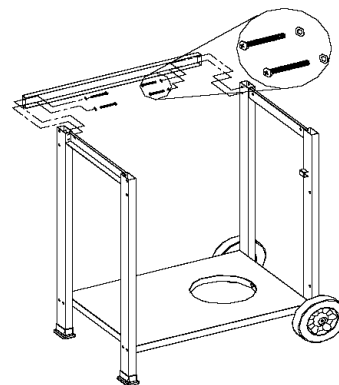

Figure 4
4. Assemble rear cart frame beam to left/right cart legs using (4) 5/32 x 3/8" Phillips head screws with (4) 5/32" flat washers. (Fig.4)